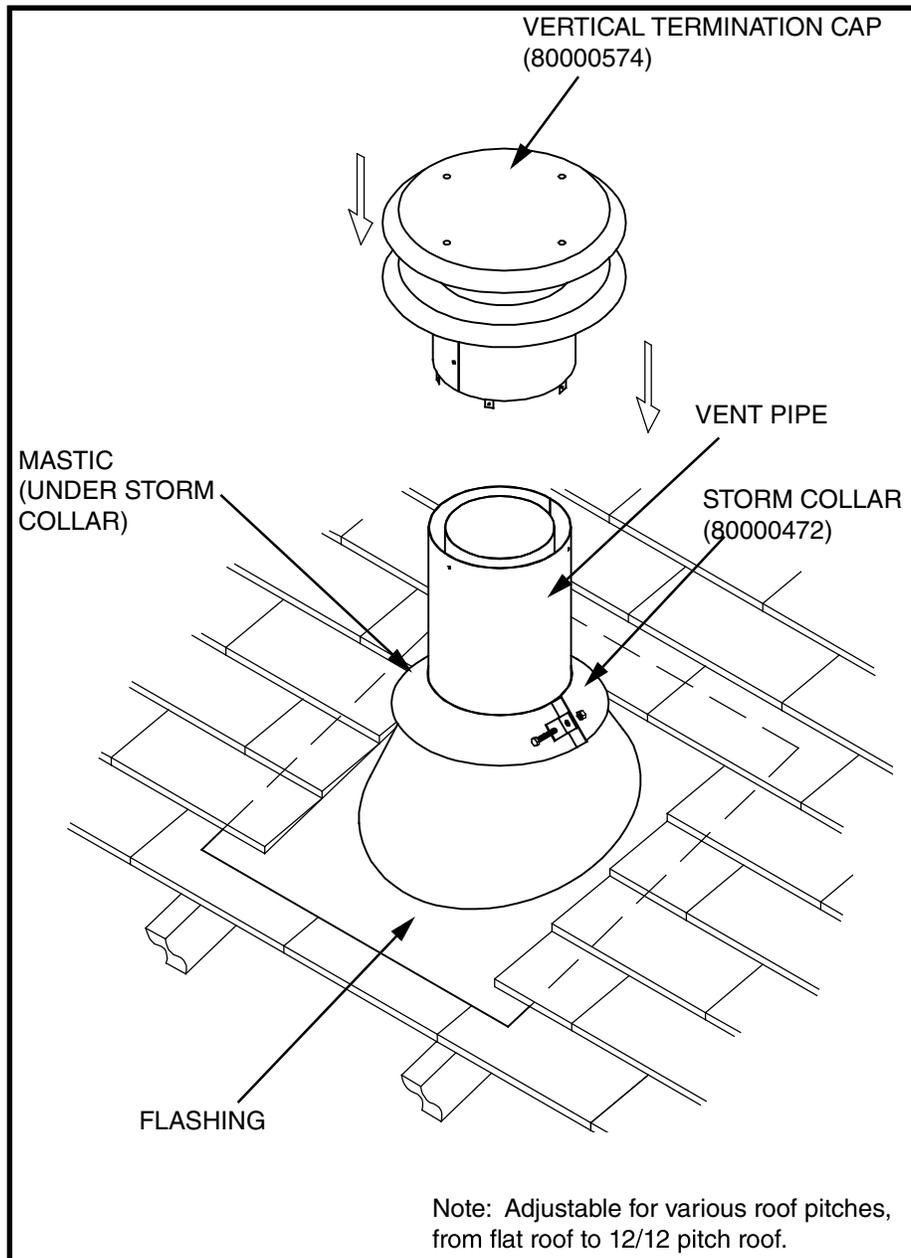
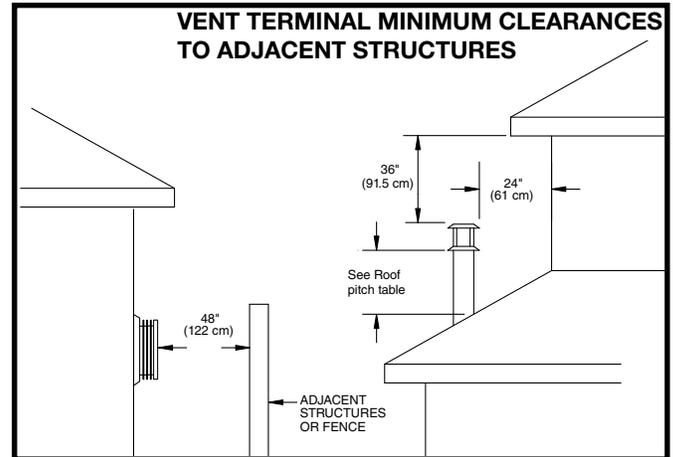
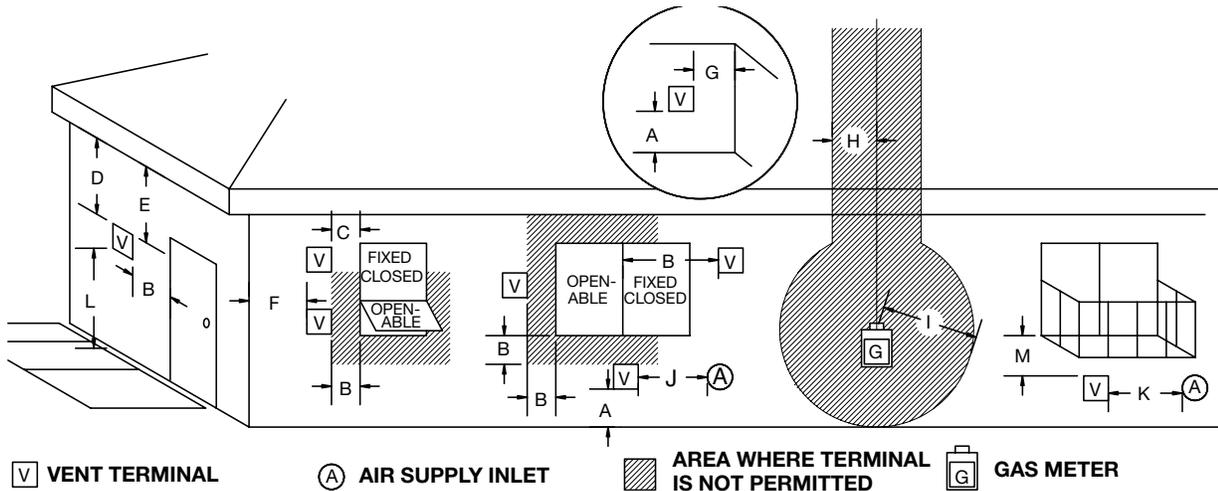

Figure 44: Roof terminal.
Figure 45: Vent roof clearance.
Figure 46: Vent terminal minimum clearances.
**NOTE: MINIMUM CLEARANCES TO THE VENT TERMINAL MUST BE MAINTAINED** See Figure 45 and Figure 44.
- Place the roof flashing over the vent pipe, secure and seal it to the roof using the methods and materials appropriate for the type of roof on the building. Shingle roof example shown in Figure 44.
Minimum clearances to the vent terminal must be maintained as shown in Figure 45 & Figure 46. Measure clearances to the nearest edge of termination hood.